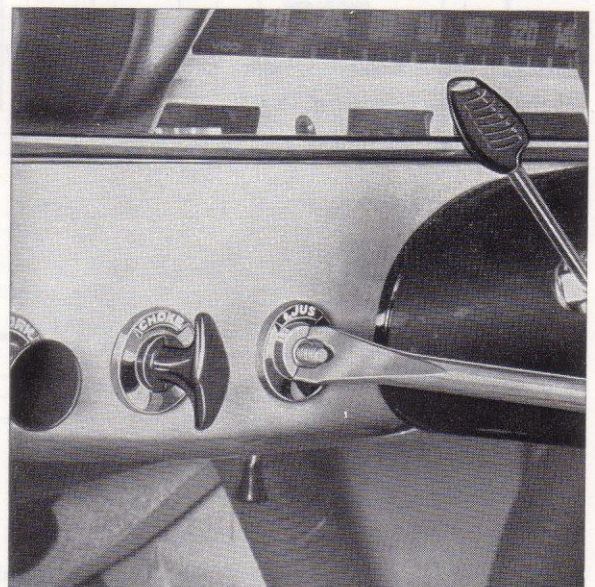

Fig. 142. Removing the switch
2. Unscrew the nut for the switch with a suitable tool, see Fig. 142.